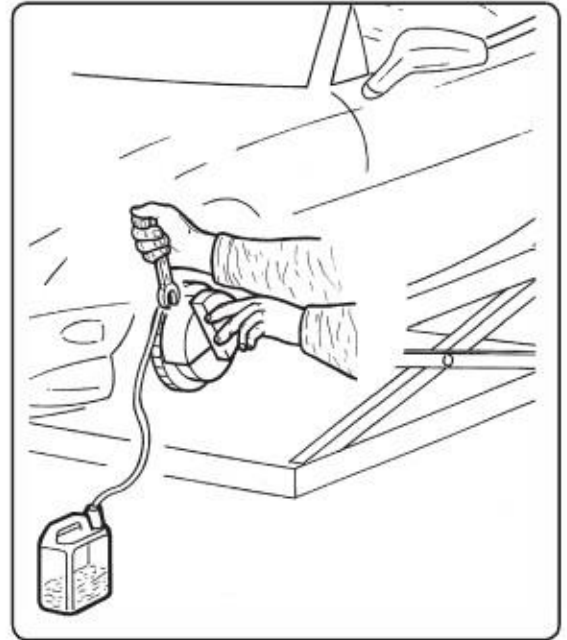

Fig. 7
3.2.4. Starting with the wheel furthest away from the brake fluid reservoir, connect one end of the tube from the bleed bottle to the brake nipple and, using a brake spanner, open the nipple approximately ¼ turn (fig.6 - fig.7), brake fluid will flow through the clear pipe into the bottle, when there are no visible bubbles in the fluid, tighten the bleed nipple and remove the pipe, taking care not to spill any brake fluid.